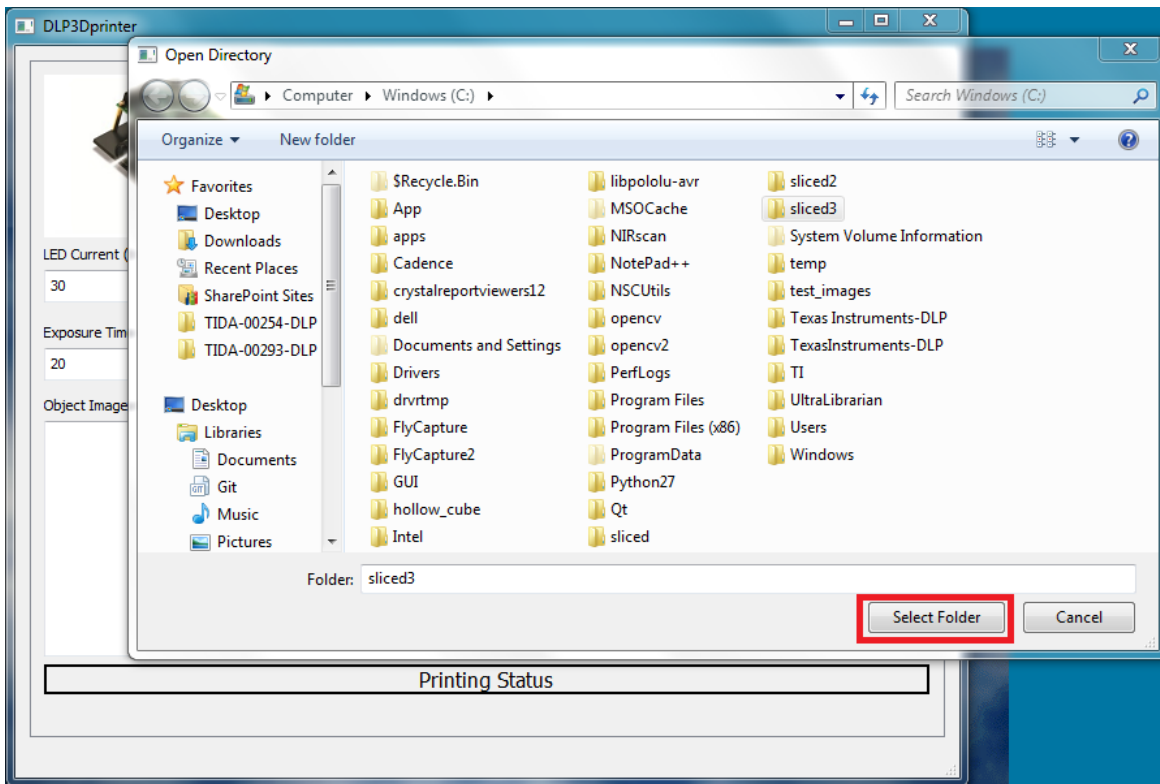

Figure 3-19. Layer Image Folder Selection
3. In the dialog box, select the folder where the cross-sectional images are located, as shown in Figure 3-19. Highlight the folder and click the **Select Folder** button.